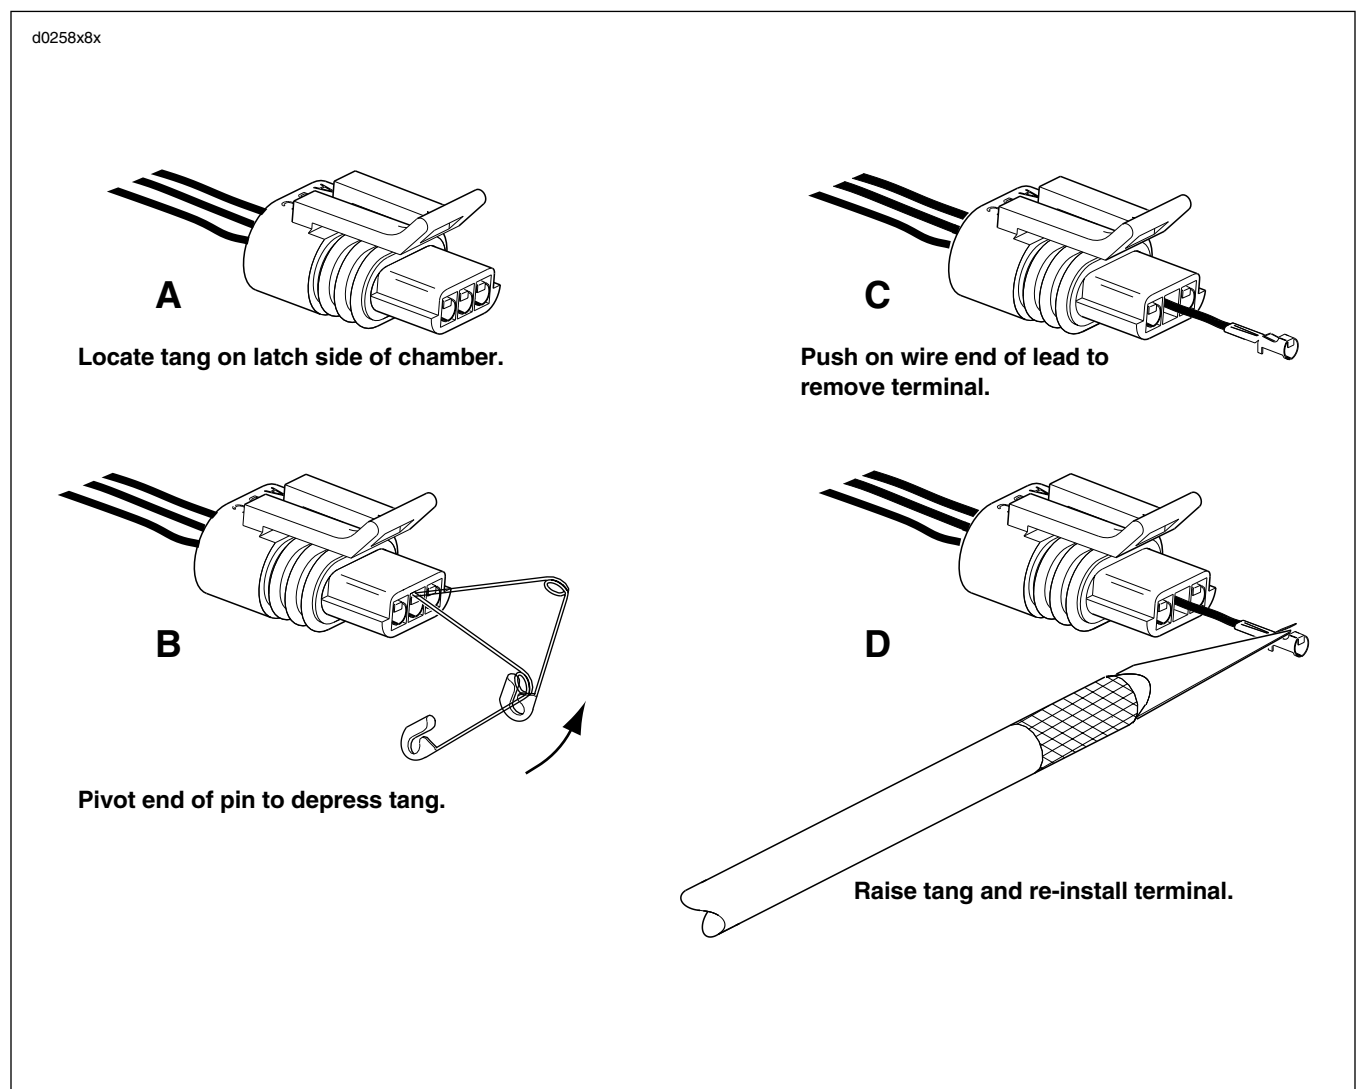

Figure B-20. Packard Connectors
Two types of Packard pull-to-seat electrical connectors are used. One type has an external latch to lock the pin and socket halves together, while the other makes use of a wire-form. See Figure B-20. The manner in which the terminals are picked differs between these two types of connectors, as further described below.
3. To free a pull-to-seat terminal from the connector housing, first look into the mating end of the connector to find the locking tang. See A in Figure B-20. The tangs are always positioned in the middle of the chamber and are on the same side as the external latch. On those connectors with locking ears, the tang is on the side opposite the ear.
4. At a slight angle, gently insert the point of a one inch safety pin down the middle of the chamber (about 1/8 inch) and pivot the end of the pin toward the terminal body. When a click is heard, remove the pin and repeat the procedure. See B in Figure B-20. The click is the sound of the tang returning to the locked position as it slips from the point of the pin. Pick at the tang in this manner until the clicking stops and the pin seems to slide in at a slightly greater depth than it had previously. This is an indication that the tang has been depressed.
5. Remove the pin and push on the wire end of the lead to extract the terminal from the mating end of the connector. See C in Figure B-20. If necessary, pull back the conduit and remove the wire seal at the back of the connector to introduce some slack in the wires.
1. To install a terminal back into the chamber of the connector housing, use a thin flat blade, like that on an X-Acto knife, and carefully bend the tang outward away from the terminal body. See D in Figure B-20.